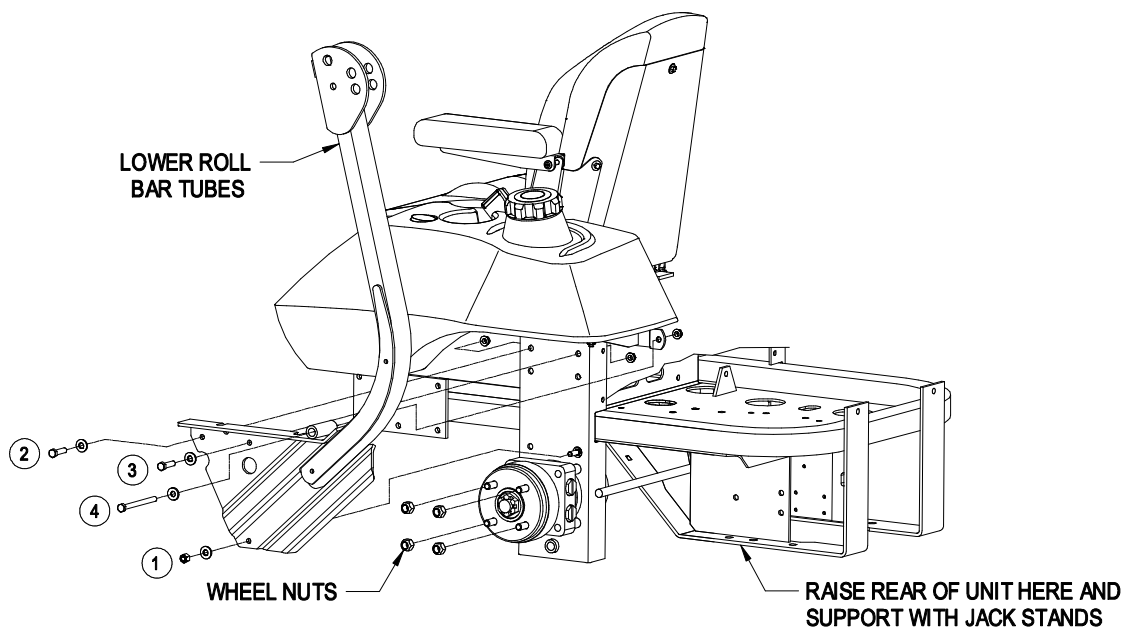

FIGURE 2
- Align lower roll bar tubes along wheel motor channels as shown in Figure 2.
- LOOSELY** install the lower roll bar hardware from the bolt bag to the tubes in the following order (Reference Figure 2 for alignment and installation instructions below):